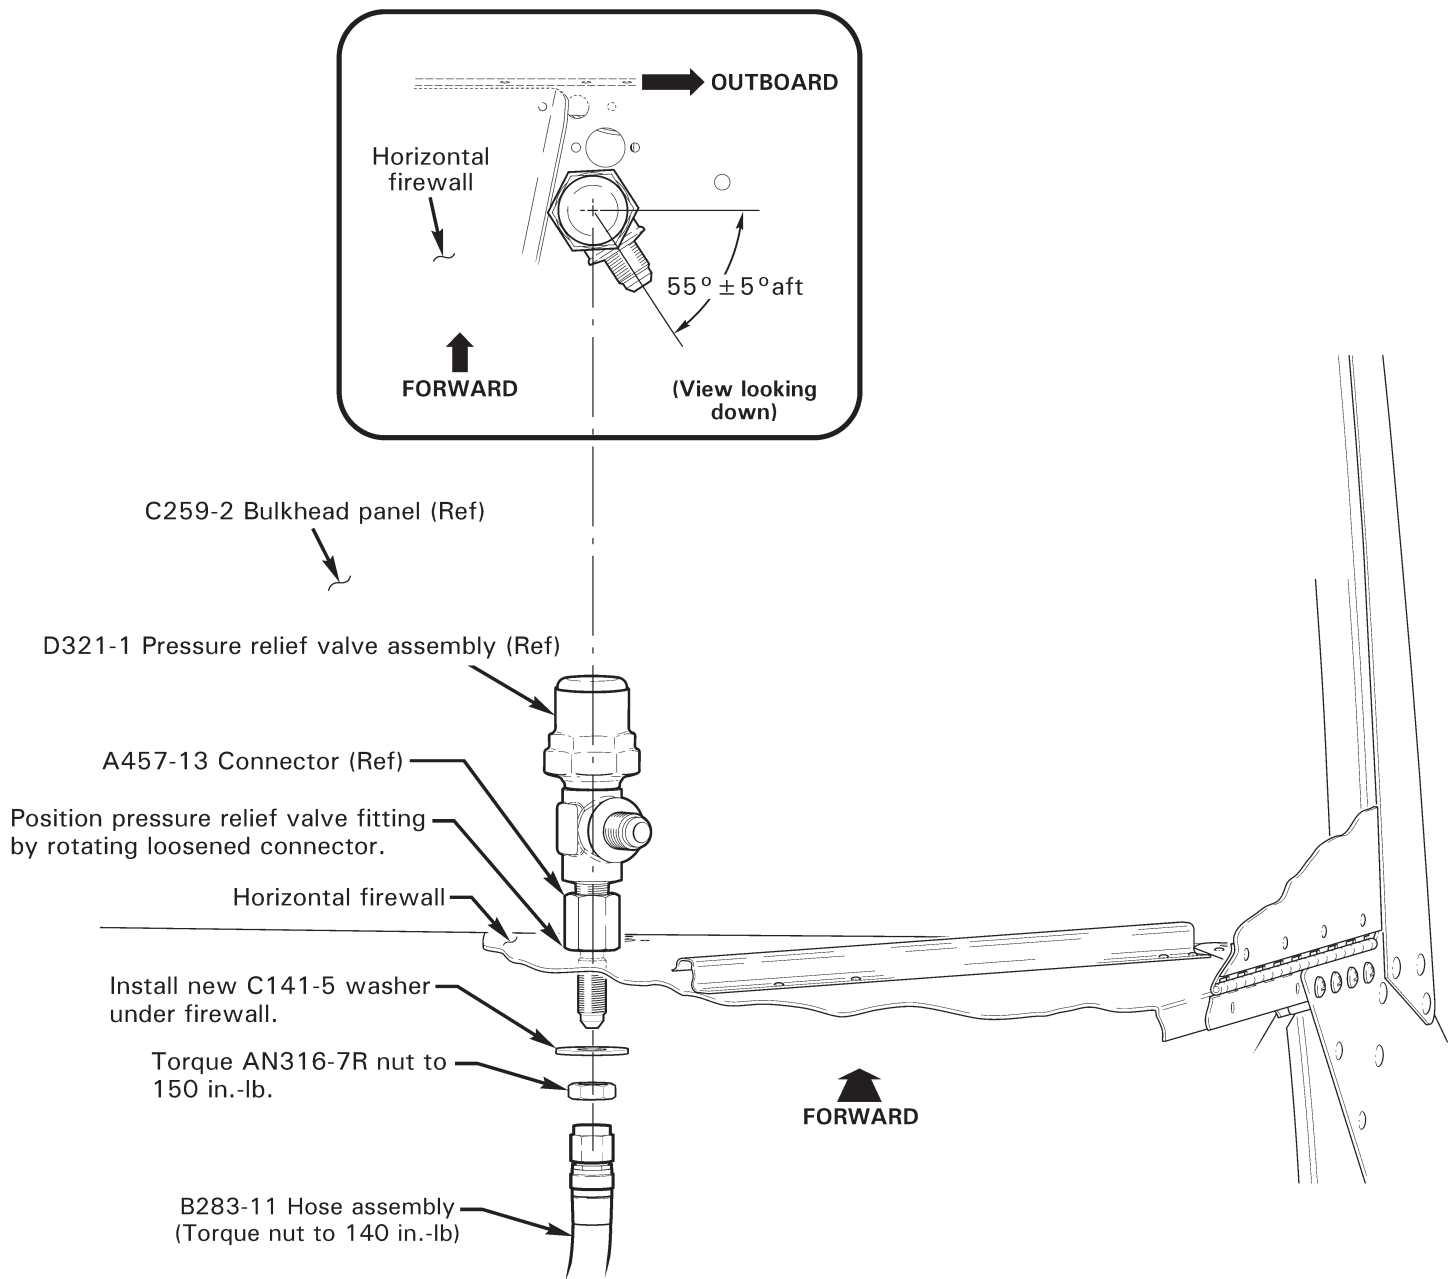

FIGURE 2 Pressure relief valve position
7. R44 II only: Refer to Figure 2. Disconnect B283-11 hose assembly at connector under horizontal firewall. Do not loosen relief valve at connector. Remove AN316-7R nut and NAS1149F0732P washer; retain nut & discard washer. Position relief valve (at loosened connector) so relief valve fitting points $55^\circ \pm 5^\circ$ aft; install C141-5 washer (provided) & retained nut and special torque AN316-7R nut to 150 in.-lb. Connect B283-11 hose assembly, special torque to 140 in.-lb, and torque stripe both nuts per MM Figure 2-1.